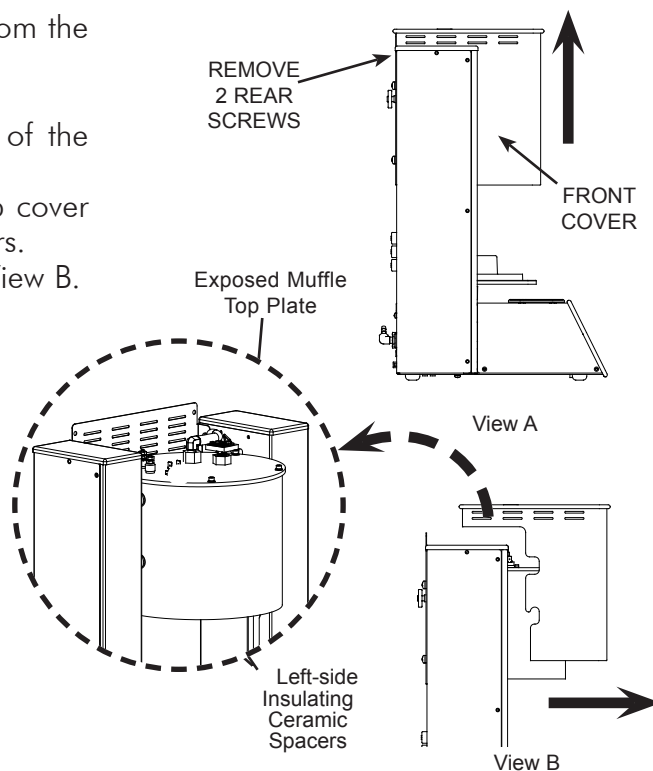

Figure 9.
4. Remove the 2 rear screws securing the rear of the Front Cover as shown by Figure 9, View A.
5. Refer to Figure 9, View A, and carefully lift up cover enough to clear the Insulating Ceramic Spacers.
6. Tilt cover and remove Front Cover. Figure 9, View B.